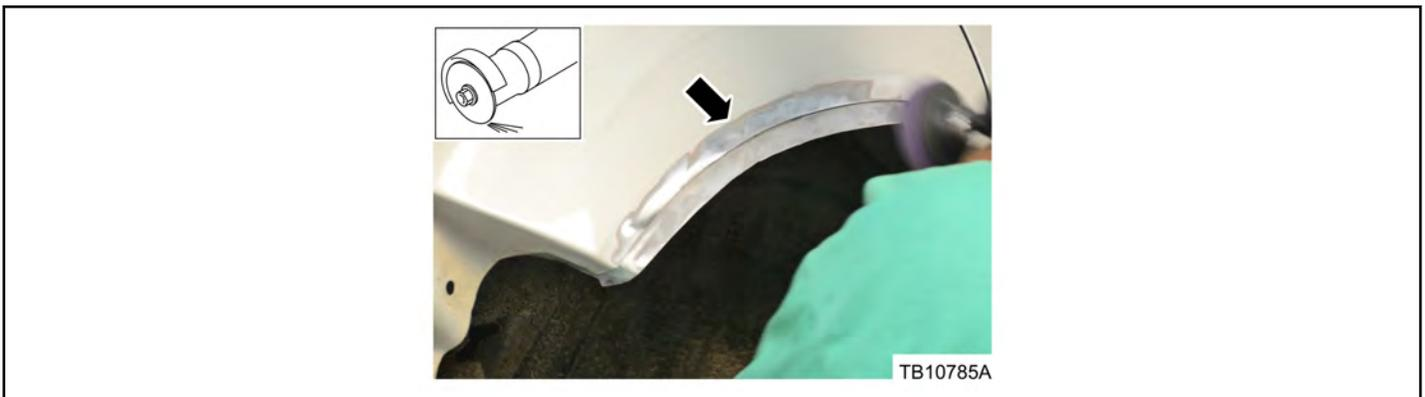

Figure 3 - Article 15-0157
10. Prepare the area for welding by grinding and cleaning the inner and outer panels. (Figure 3)